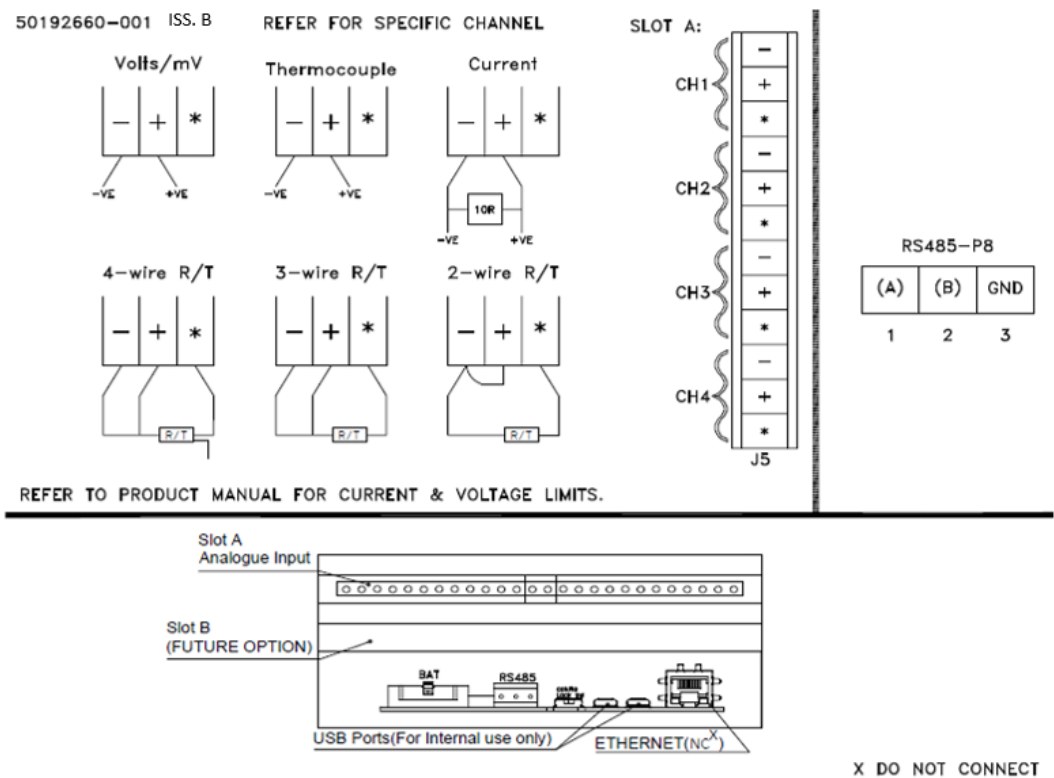

Figure 3-7: Analog Input Wiring
- Use a dual-pole switch with fuses (0.5A, 250V AC) as shown in figure 3-7.